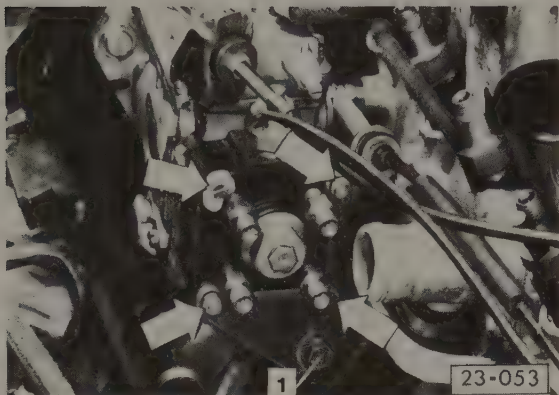
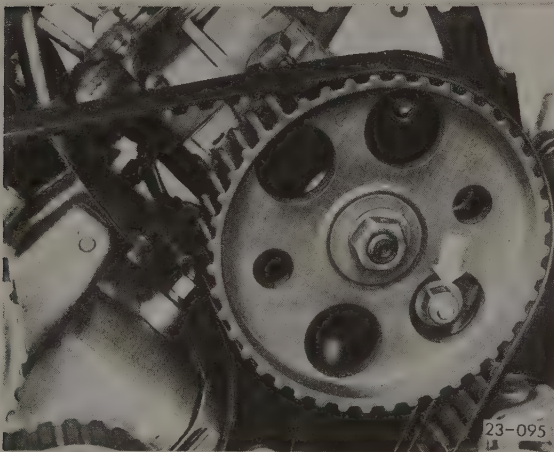

Fig. 5-15. Injection pump rear support bolt (1). To avoid damage to the distributor plunger, do not loosen the bolts (arrows) on the fuel distributor head.
Fig. 5-22. Lower mounting plate bolt (arrow) accessible through hole in the injection pump sprocket.
8. Remove the bolt from the injection pump rear support (Fig. 5-15). Remove the bolts from the front injection pump mounting plate and remove the pump.
6. If the dial indicator reading is out of specification, a timing adjustment is necessary. With the engine at TDC, slightly loosen the injection pump rear support bolt, shown earlier in Fig. 5-15, and the front mounting plate bolts as shown in Fig. 5-22. Rotate the pump, either clockwise or counterclockwise, until the dial indicator reading is within the adjusting specification tolerance.